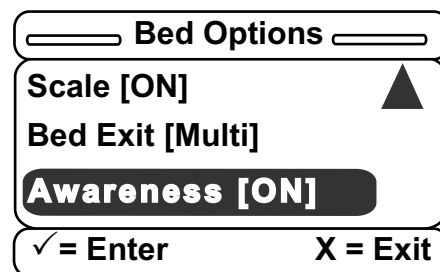

Figure 41 – Bed Options menu
17. After you set the Awareness option, you will return to the Bed Options menu (Figure 41). After text appears in square brackets next to each option in the Bed Options menu, all of your options have been set. You may re-enter any option and change the setting at any time.